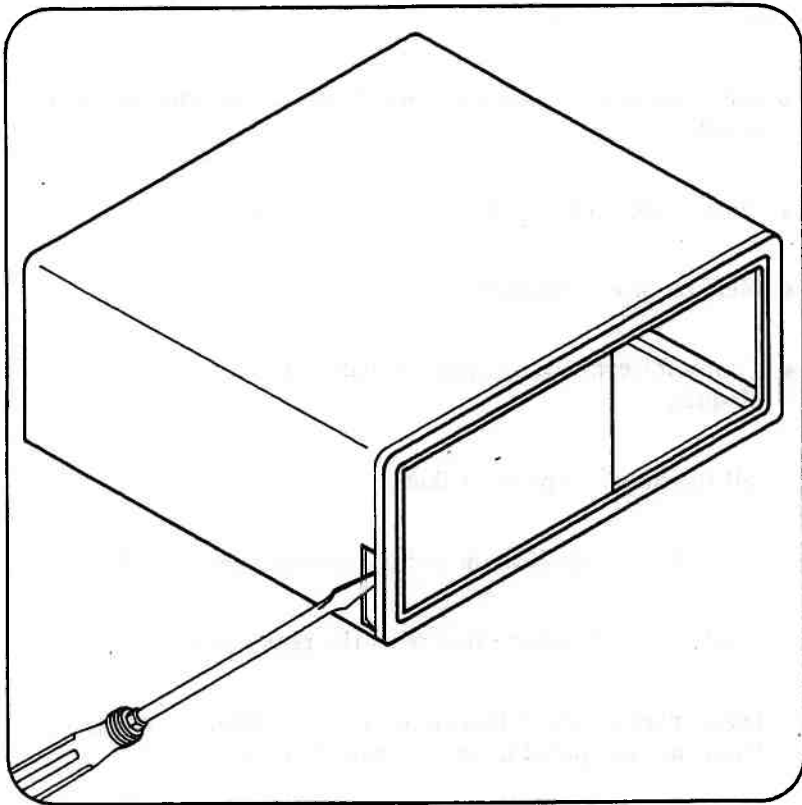

Figure 3-35. Removing a Plastic Panel From the System Module
6. Remove the plastic cut-out panel on the left side of the upper System Module cover by applying pressure on it with a screwdriver (Figure 3-35).